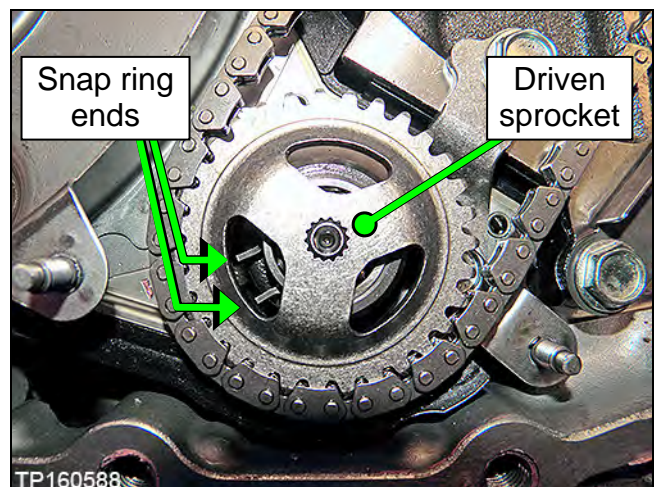

Figure 10I
- a. Expand the snap ring with a suitable tool, and then push down on the driven sprocket until it bottoms out (Figure 10I).